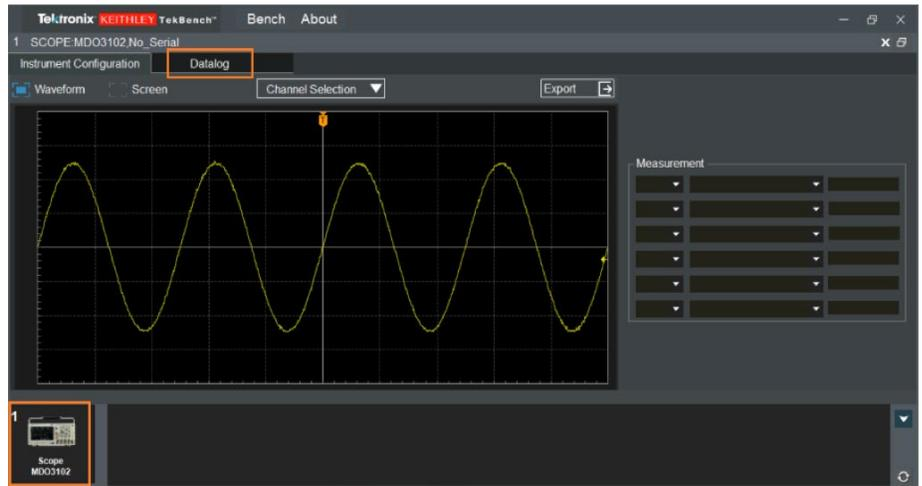

Figure 3: Accessing the measurement data logging interface.
- Double-click the oscilloscope icon to load it into the software application. Then click the Datalog tab to access the measurement data logging interface (**Figure 3**).